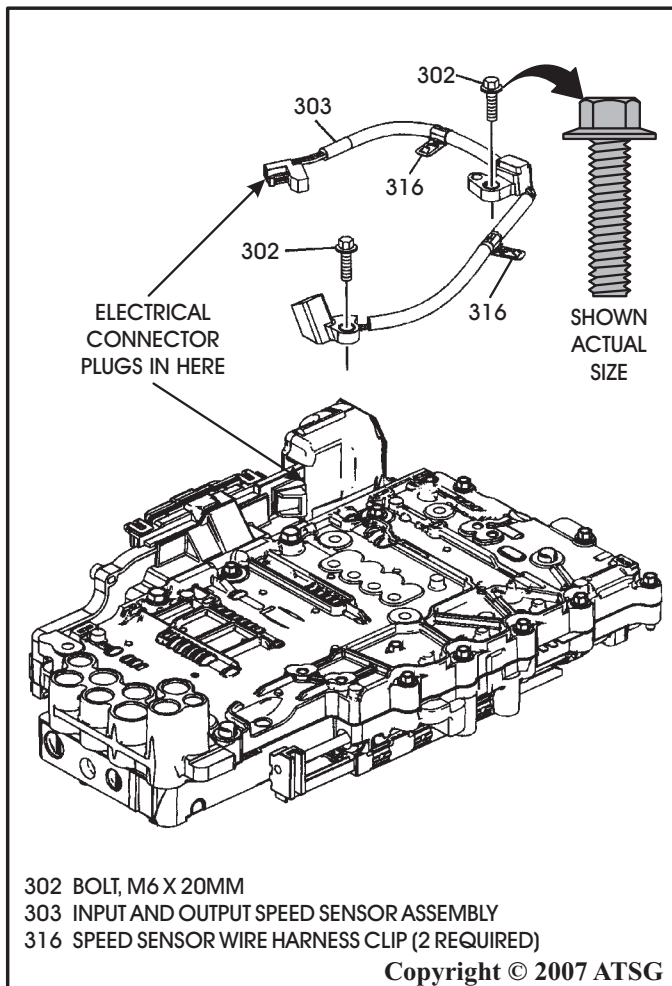

Figure 151
34. Install input and output speed sensor assembly, as shown in Figure 151, and torque retaining bolts to 12 N·m (106 in.lb.).
35. Plug the speed sensor wire harness into TCM, as shown in Figure 151.